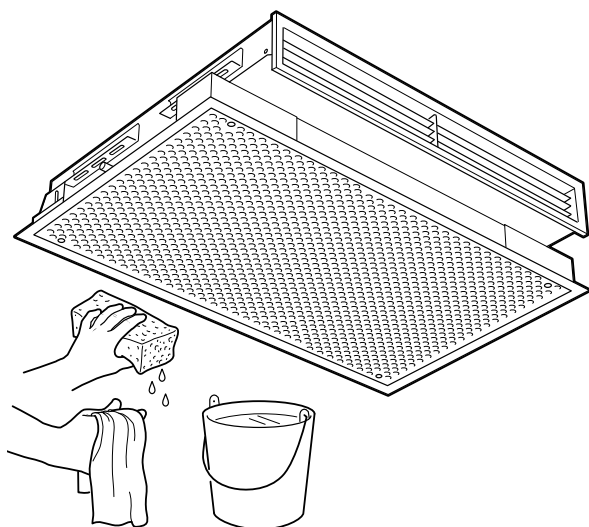

FIGURE 11
- 1) Wipe down the exterior of the chilled beam with soap and water as needed. (See **FIGURE 11**)